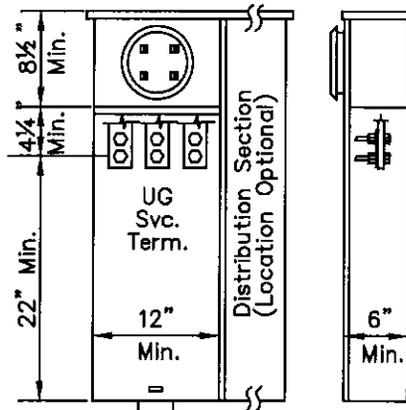

Fig. 2 TYPICAL SERVICE TERMINATION ENCLOSURE COMBINATION METER SOCKET PANEL FOR CLASS 320 METER
1. Conductors to class 320 meter panels shall be terminated with compression lugs with Nema pads shown in Figure 2. See Sheet 4 for wire sizes applicable to subject panels.